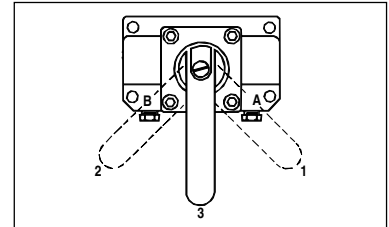

Figure 1
**VM33, VM33L, VM43, VM43L (Se fig. 1)**